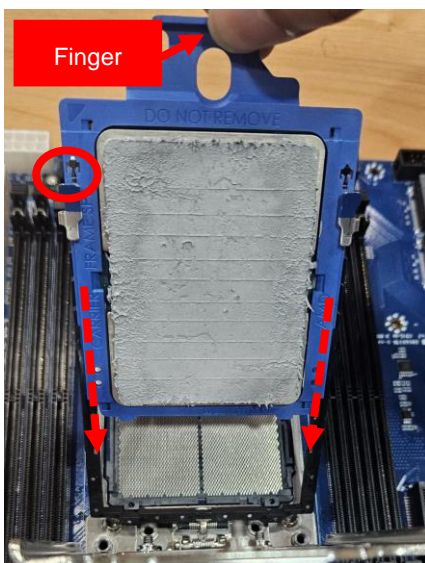

Figure 7
B. Insert the Carrier Frame with the CPU package into the Rail Frame slot by holding the finger grip. (Figure 7 & 7.1)